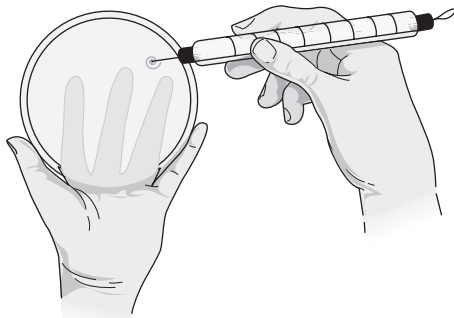

FIG. 20.4. Acquiring sample for Enterotube II and Oxi/Ferm Tube II.
3. Touch an isolated colony with the straight end, twist the wire by turning the looped end, and then pull the wire completely through the tube (Figs. 20.4 and 20.5).